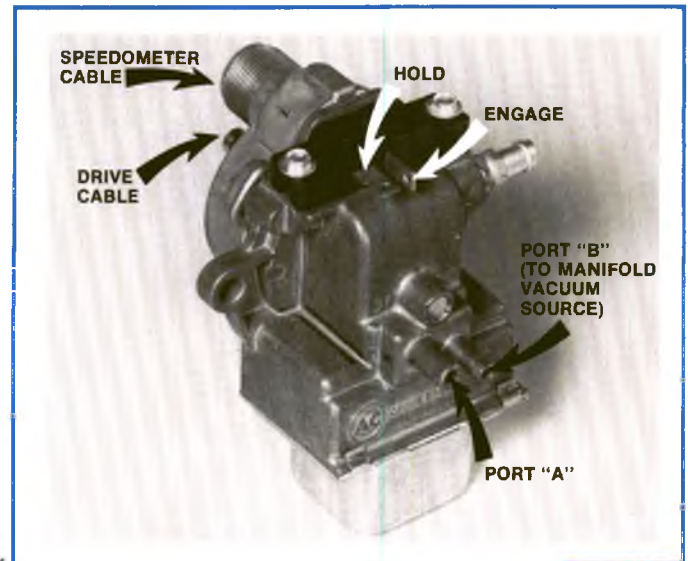

Figure 1-6, AC Cruisemaster (non-resume type) Transducer.
2. Transducer (figure 1-6) . . .